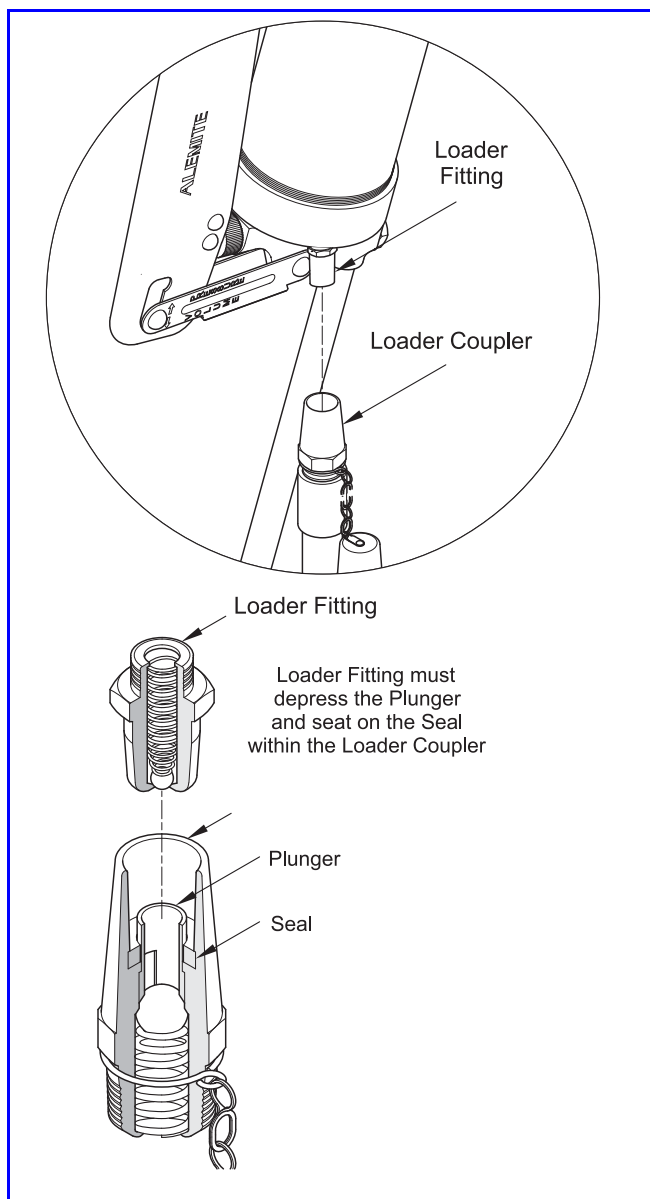

Figure 6 Loader Fitting and Loader Coupler
The guns are spring-primed and contain an air bleed valve to aid the priming process. Each gun is also equipped with a Loader Fitting that allows filling directly from a hand-operated loader pump. See **Figure 6**.
5. Seat the Loader Fitting into the loader coupler. See **Figure 6**.